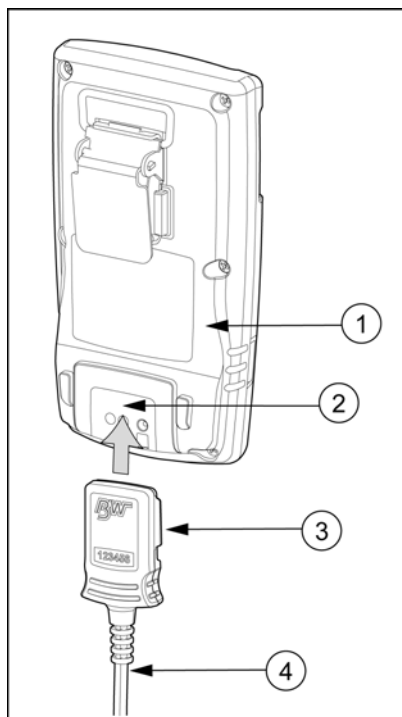

Figure 8. Connecting the Charging Adapter
To charge the battery, refer to Figure 8., Table 13., and the following procedures (1-8).
3. Attach the charging adapter to the charger interface. Refer to Figure 8.